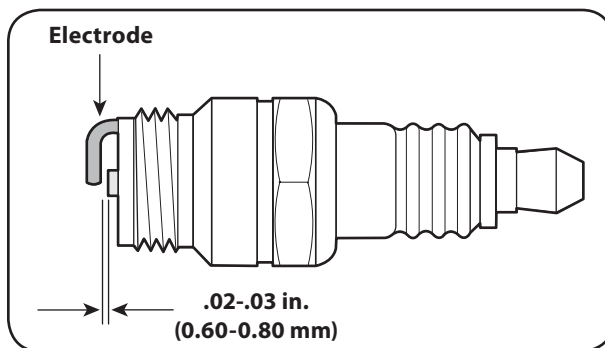

Figure 7-3
3. Remove the frame cover from the underside of the snow thrower by removing four self-tapping screws which secure it. Refer to Fig 7-3.
3. Measure the plug gap with a feeler gauge. Correct as necessary by bending side electrode, Figure 7-3. The gap should be set to .02-.03 inches (0.60-0.80 mm).